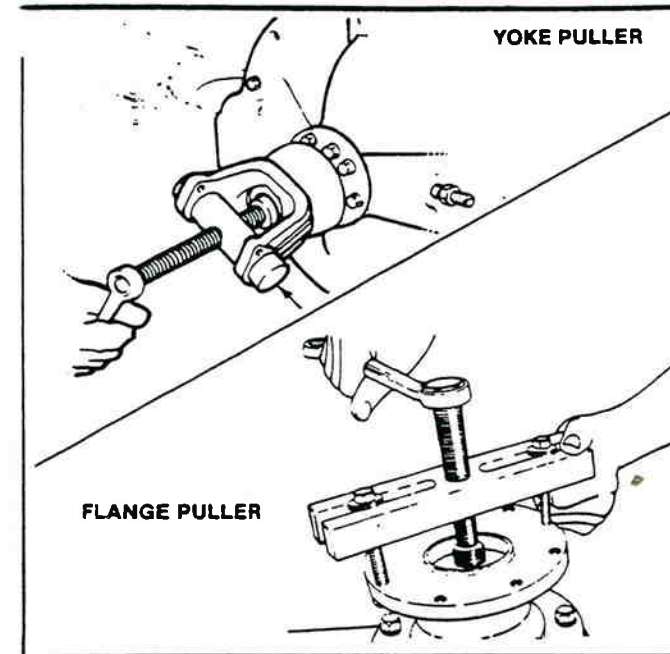

Figure 2-22. Removing Yoke or Flange.
3. Remove the yoke or flange from the drive pinion. If the yoke or flange is tight on the pinion, use a puller for removal (Figure 2-22).